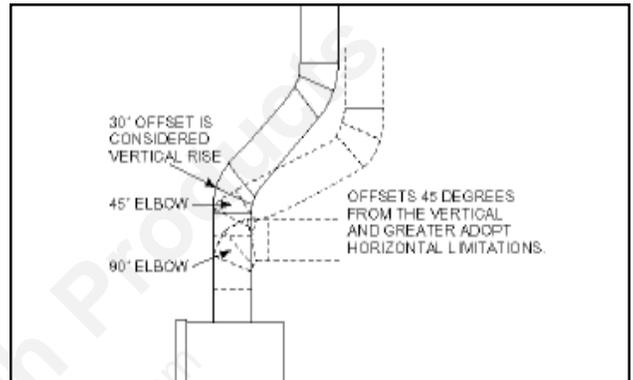

Figure 7 - Using Elbows
- b. **Using Elbows.** Elbows 45 degrees and greater from the vertical shall be considered horizontal and therefore adopt horizontal run limitations. See Figure 7.